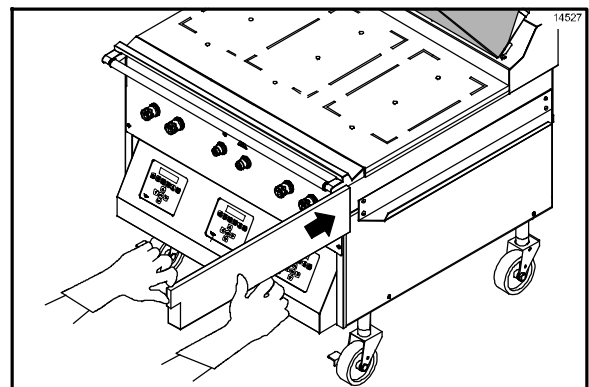

Figure 71
44. Re-install the grease pans. (See Figure 71.)